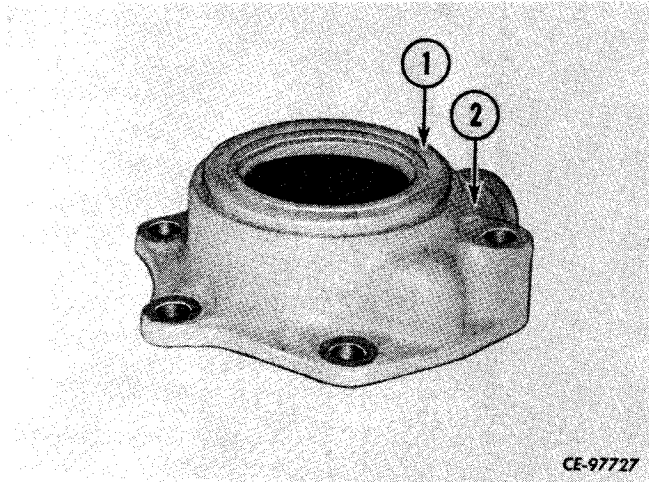

Figure 4-30
Remove and replace oil seal (1, Fig. 4-30) from retainer (2). Press a new oil seal into retainer with lip of seal facing transmission housing.